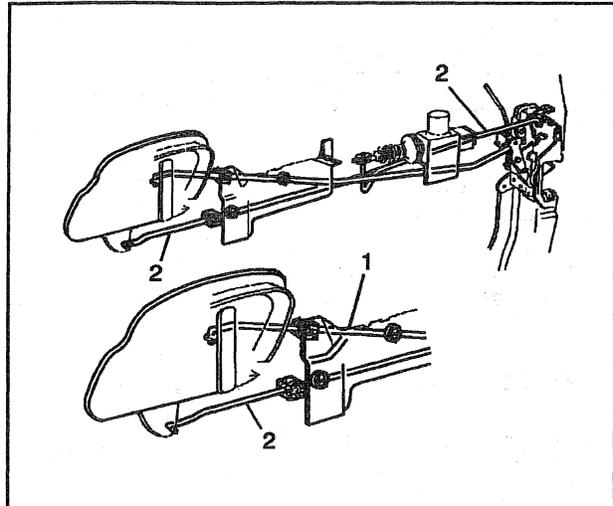

Figure 53—Rear Door Inner Handle Control Rods
4. Inside handle control rod (1) from the handle and lock lever assembly (figure 53).
5. Inside lock control rod (2) from the handle and lock lever assembly (figure 53).